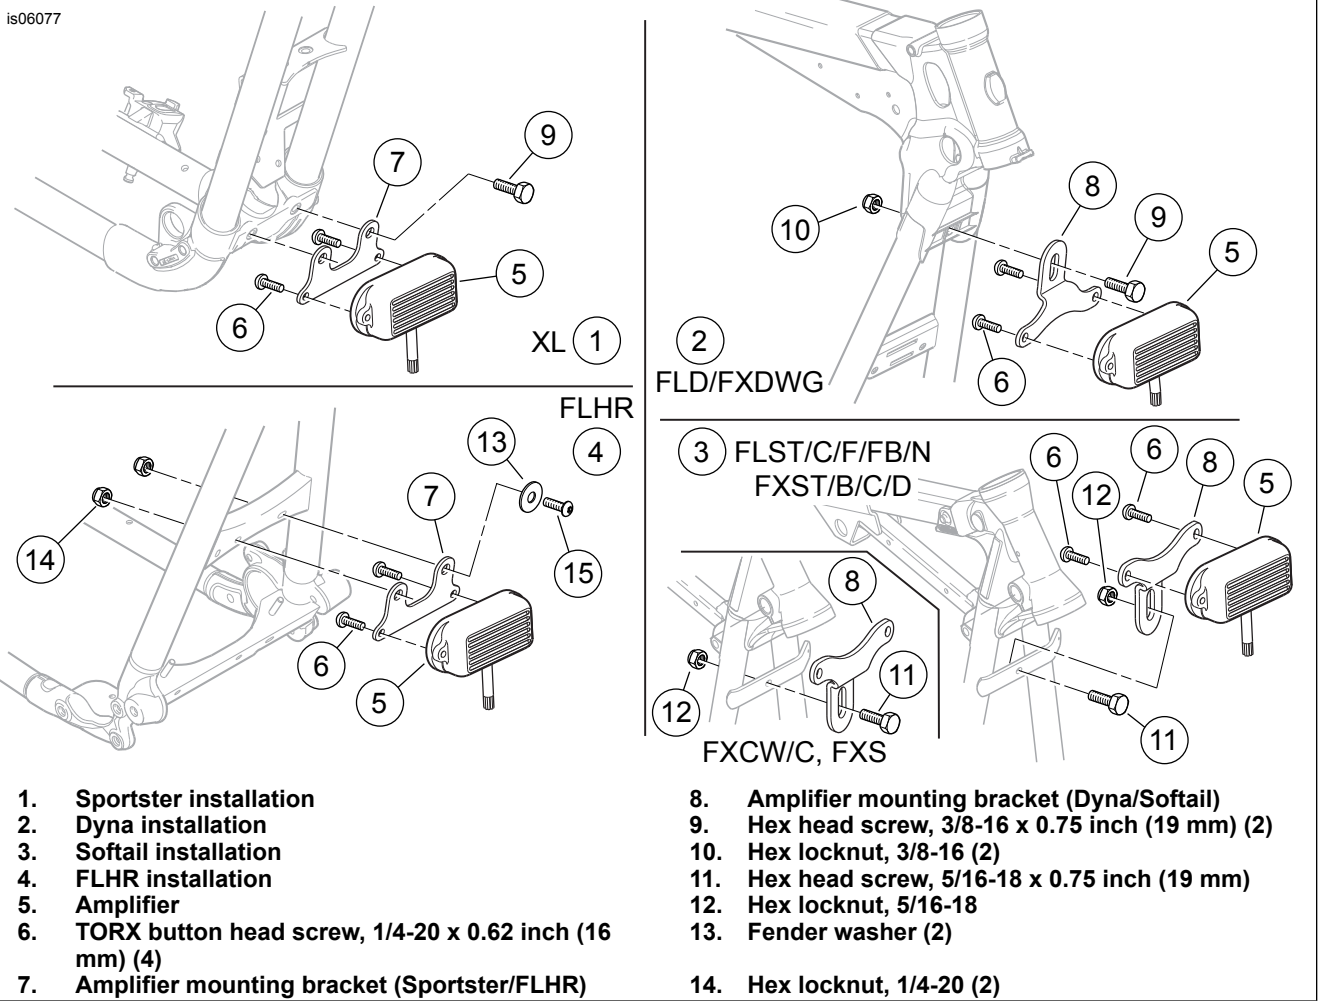

Figure 1. Amplifier and Bracket Installation
2. See Figure 1. Install the amplifier (5, part of the wire harness assembly) to the bracket with the screws (6), and tighten to 7.4 N·m (65 in-lbs).
- **For Sportster models:** Select two 3/8-16 hex head screws (9) from the kit.
- **For Dyna models:** Select one 3/8-16 hex head screw (9) and one hex locknut (10) from the kit.
- **For Softail models:** Select the 5/16-18 screw (11) and hex locknut (12) from the kit.
- **For Touring models:** Select two 1/4-20 x 16 mm (0.62 in) long TORX head screws (6), two fender washers (13) and two hex locknuts (14) from the kit.
4. See Figure 1. Install the amplifier and bracket to the frame crossmember between the front down tubes as shown.